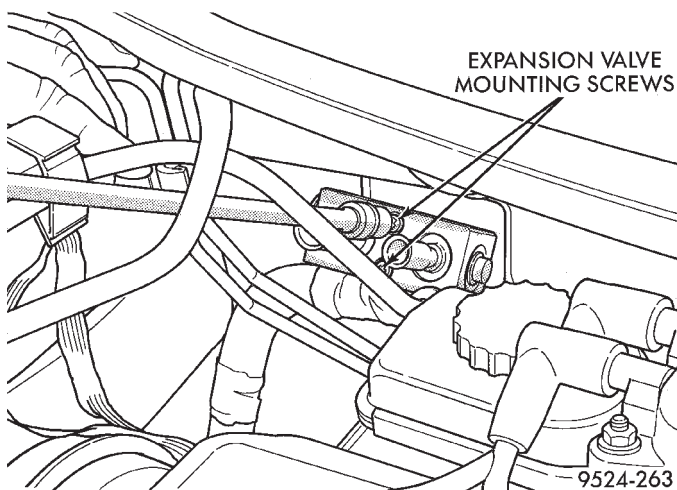

Fig. 49 Expansion Valve Bolts
- (5) Remove two retaining bolts from expansion valve (Fig. 49).